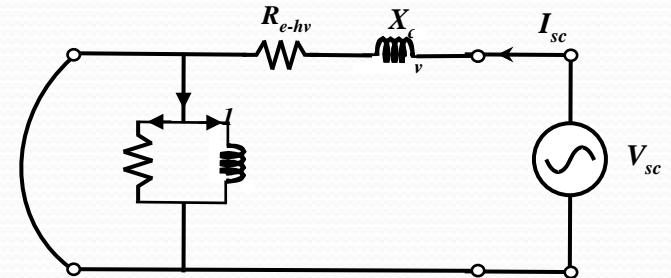

Figure 4.31 Circuit diagram for short circuit test
- The approximate equivalent circuit for the connection during SC test is shown in Figure 4.31. The test is conducted on the high voltage side. So the parameters obtained will be the effective values referred to the hv (H) side.